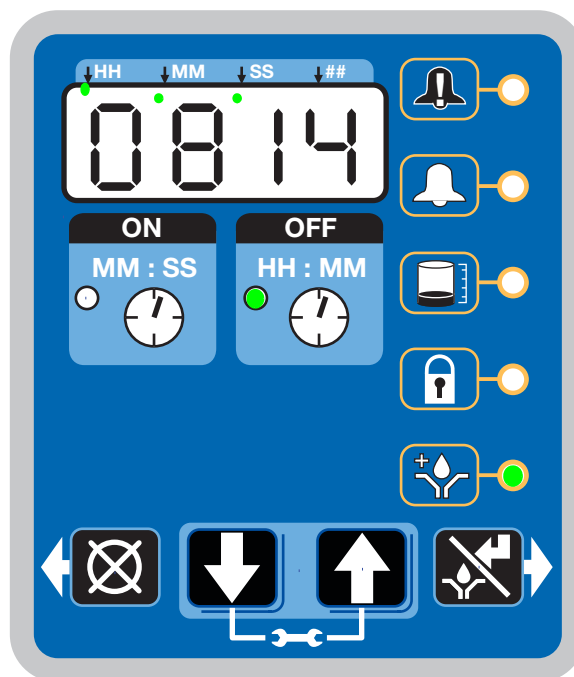

FIG. 23
- The LED next to the clock in the OFF field is illuminated (FIG. 23).
- The Prelube LED lights (FIG. 23).
- The display shows time remaining until lubrication cycle begins. The example shown in FIG. 23 shows 8 minutes and 14 seconds left until a lubrication cycle begins.